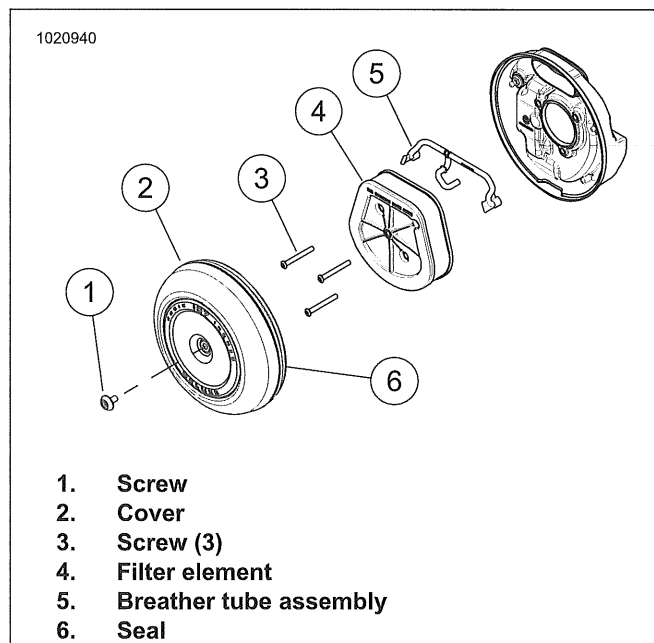
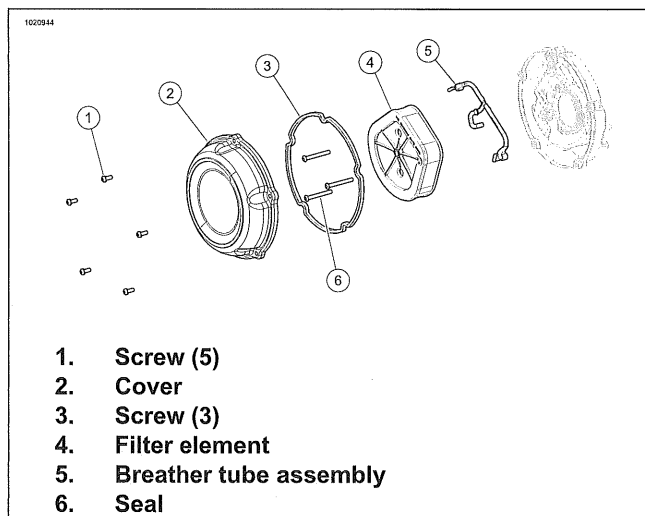

Figure 2-42. Replace Air Filter Element, Single Screw Cover
Figure 2-43. Replace Air Filter Element, Five-Screw Cover
1. See Figure 2-42 or Figure 2-43. Remove air cleaner cover.
- a. Remove screws (1).
- b. Remove cover (2).
- a. Remove screws (3).
- b. Remove filter element (4) while pulling breather tube (5) from element.
1. See Figure 2-42 or Figure 2-43. Remove breather tube (5) from breather bolts.
1. See Figure 2-42 or Figure 2-43. Install filter element.
- a. Install breather tube (5) into filter element (4).
- d. Install screws (3). Tighten to 48–72 **in-lbs** (5.4–8.1 N·m).
2. Verify that rubber seal (6) is properly seated and not damaged.
- a. Apply LOCTITE 243 MEDIUM STRENGTH THREADLOCKER AND SEALANT (blue) to threads of screw (1).
- b. Install cover (2).
- c. **Single screw cover:** Install screw (1). Tighten to 50–65 **in-lbs** (5.6–7.3 N·m).
- d. **Five-screw cover:** Install screws (1). Tighten in a star pattern to 48–72 **in-lbs** (5.4–8.1 N·m).